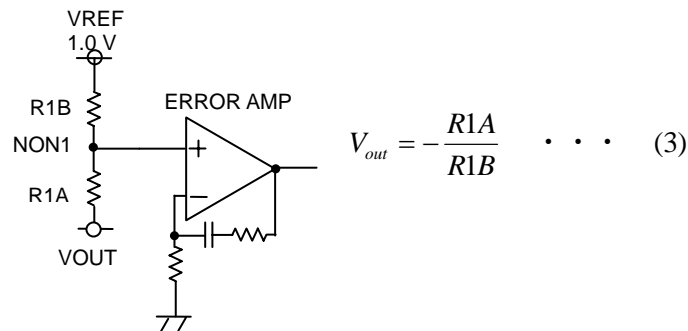

Fig.33 CH1 output setting
The reference voltage of CH1 is 1.0V and the internal reference voltage of the ERROR AMP is 0 V. Output voltage should be obtained by referring to Equation (3) of Fig.33.